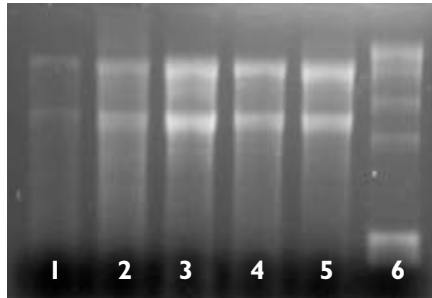

Figure 1:
17. RNA integrity can be analyzed visually using denaturing or non-denaturing 1.2 % agarose gel electrophoresis (See Figure 1 & 2).